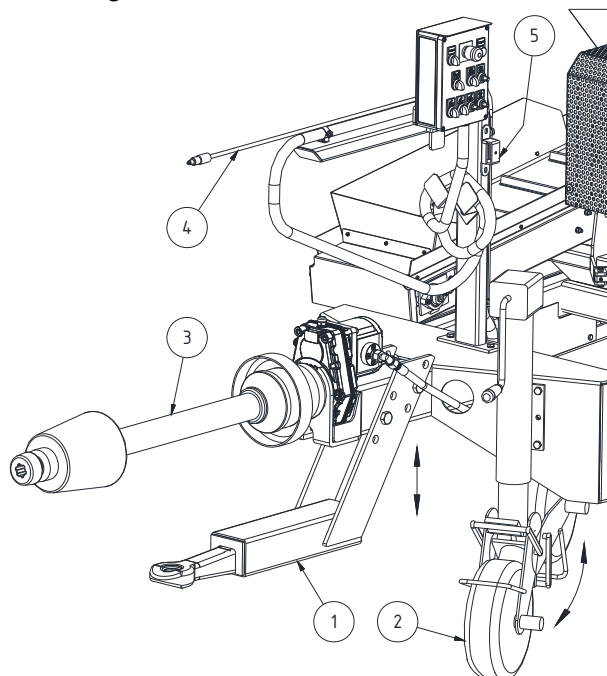

Fig.1: Coupling
- Coupling (1) a towing vehicle. To do this, loosen the screws of the coupling (1), adjust to the correct height and tighten the screws. (See page 1)
- Fully crank up the jockey wheel (2), then loosen the jockey wheel clamp and pull the jockey wheel up as far as possible and clamp. (See page 1)
- Check PTO shaft (3) for length, shorten if necessary and place on the tractor PTO shaft. Secure against the attached chain against twisting. (See page 1)
- Connect the power (4) to the operating power of the towing vehicle. The indicator light (green) lights up when engaging the POWER switch on the control panel. (see Fig. 1 and page 10 - Fig. 2)
- Attach bracket (5) for the control panel in a suitable position on the towing vehicle (see Fig. 1).